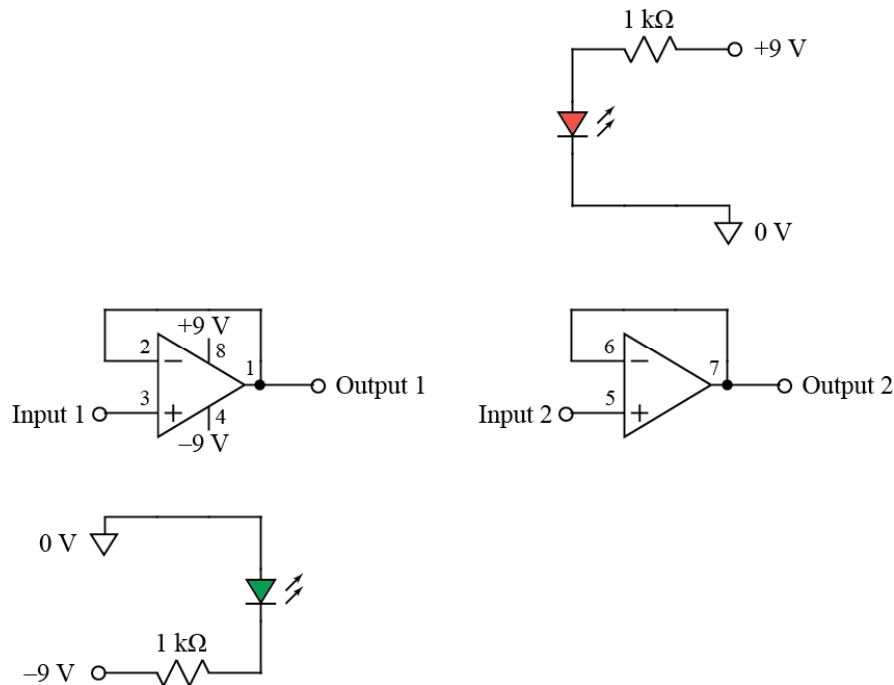
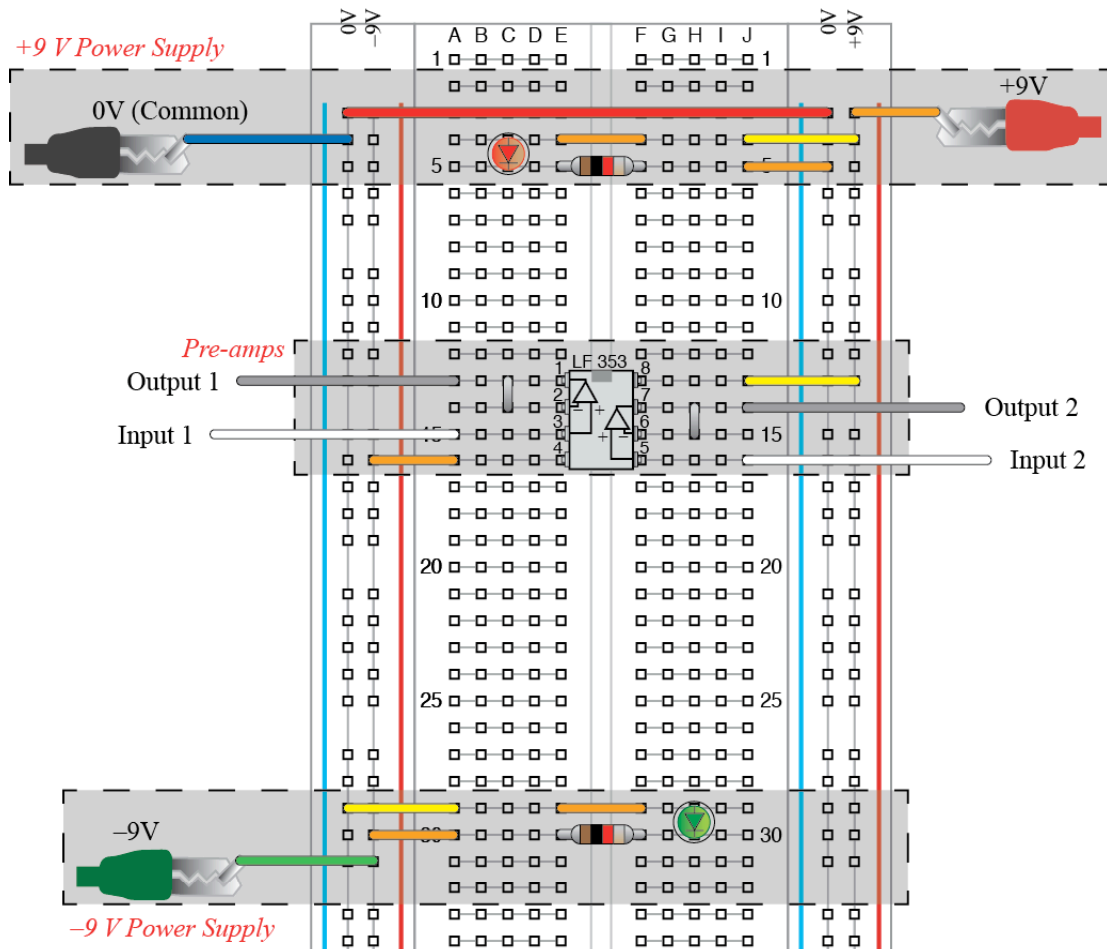

Figure 8. Pre-amp circuits: schematic. (LED power indicators also shown.)
Figure 9. Pre-amp circuits: breadboard layout.
In this part of the lab, you will build and test the pre-amp circuits. Fig. 8 shows a schematic diagram of the pre-amp circuits that the models in the previous section simulated. The pre-amps draw very little current from the electrodes and output the same voltage as the electrodes but with a much higher ability to supply current. As shown in the previous section, the output
1) *Using the diagram in Fig. 9, construct the two pre-amp circuits whose schematic diagram is shown in Fig. 8.* The LF353 is an op-amp IC that you may purchase in the stockroom (or elsewhere). Note that all points in the circuit marked with a triangle, meaning they are at 0V, are connected together. Note also that there are two very short vertical wires near the op-amp chip. These wires connect the outputs of the op-amps back to the – inputs of the op-amps.